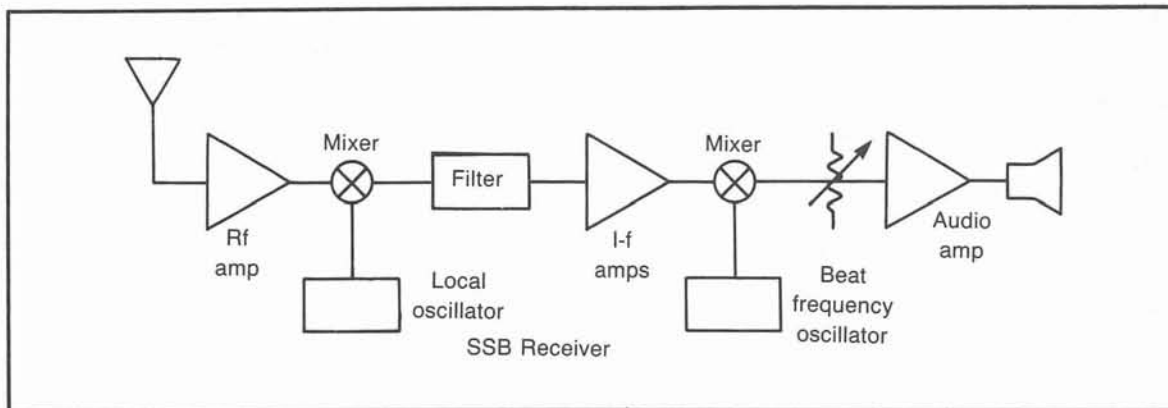

Fig. 11-6. Block diagram of a typical SSB receiver.
Figure 11-6 shows a simplified block diagram of a typical SSB-only receiver. The local oscillator (LO) may be tunable, crystal controlled, or synthesized. Sometimes it is called a heterodyne oscillator. The beat frequency oscillator (BFO) is at the same frequency as the suppressed carrier of the SSB signal in the i-f; hence, it is occasionally called a carrier oscillator. The SSB detector mixes, or beats, the SSB i-f signal with the BFO signal to produce the sum and difference. The difference product is the detected audio signal, which is amplified and fed to a speaker or earphones.